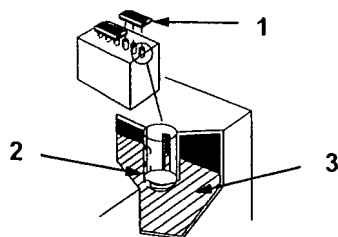

Figure 31
2. Open covers to see into the cells. The electrolyte must be up to the lower part of the tube (Fig. 31).
IMPORTANT: Do not allow the electrolyte to get below the plates. (Fig. 31).
2. Lift off the filler caps (Fig. 31).
3. Slowly pour distilled water into each battery cell until the level is up to the lower part of the tube (Fig. 31).